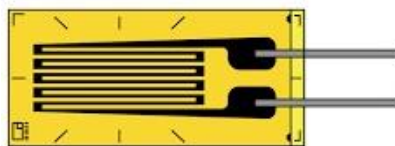

Fig. 2.20 Light Dependent Resistor
- a) **Resistive Transducers** – These transducers change their resistance based on the input parameter. Examples include strain gauges and thermistors. Figure 2.20 illustrates a strain gauge transducer which is a resistive type and is used to measure the force.